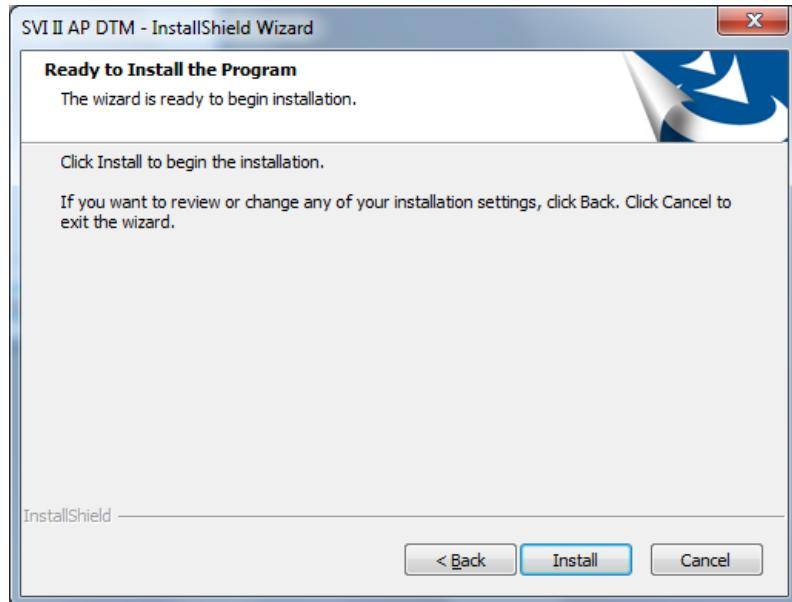

Figure 19 SVI II AP Advanced DTM Ready to Install the Program Screen
4. Click **Change** and navigate to the target directory or just click **Next** and Figure 19 appears.